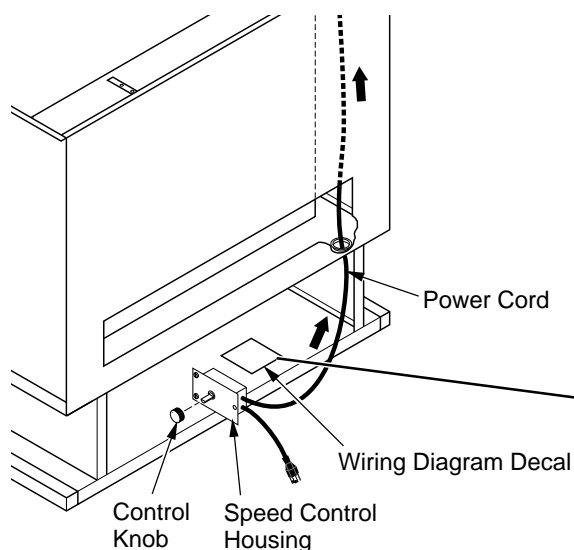
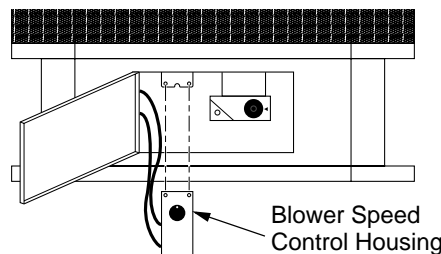

Figure 15 - Routing Power Cord
Figure 16 - Installing Blower Control Housing
10. Route ends of 3-wire power cord up from the lower control compartment through the plastic bushing, then up to the upper cavity of stove (see Figure 15, page 11).
14. Install plastic control knob onto output shaft of speed control housing (see Figure 15). Place speed control housing just inside control compartment door in front of stove (see Figure 16).
15. Using two screws provided in blower kit, mount blower speed control housing to mounting tab in left side of lower control compartment (see Figure 16).
18. Peel off the backing paper and stick the supplied wiring diagram decal on the stove floor as shown in Figure 15.
22. Install plastic control knob onto output shaft of speed control housing (see Figure 20, page 12). Place speed control housing just inside control compartment door in front of stove (see Figure 16, page 11).
23. Using two screws provided in blower kit, mount blower speed control housing to mounting tab in left side of lower control compartment (see Figure 16, page 11).